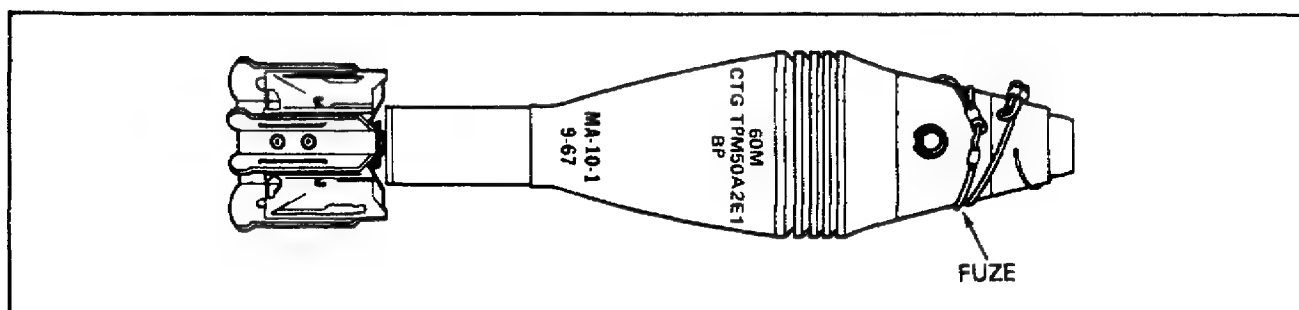
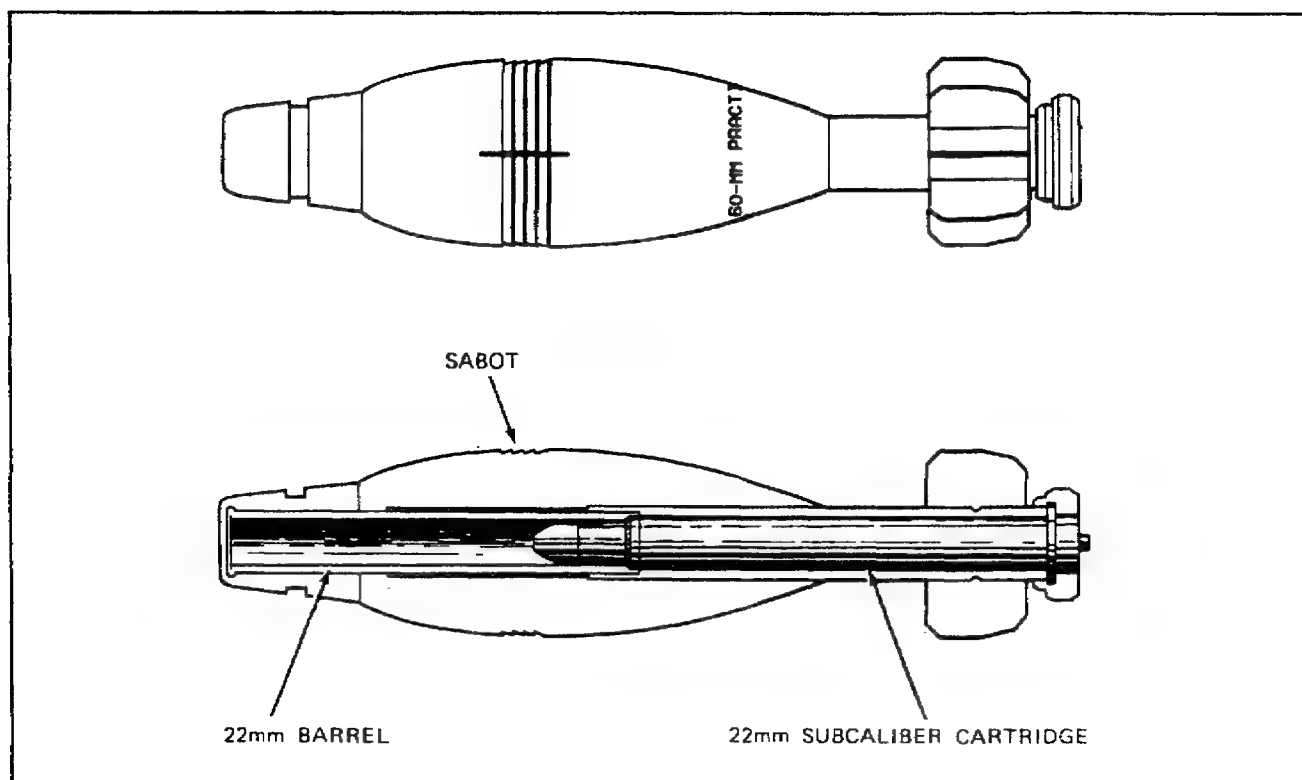

Figure 24. 60mm Target Practice Mortar Cartridge (Old).
Figure 25. 60mm Target Practice Mortar Cartridge (New).
**60mm Target Practice Mortar Ammunition.** The 60mm target practice mortar cartridge is used to provide realistic training without causing damage or using ammunition reserved for combat. The old 60mm target practice round (Figure 24) is identical in shape to the old type HE round, but the target practice round has a small black powder spotting charge and an inert plaster filler to make the weight correct. The target practice round uses a point-detonating fuze that functions upon impact, igniting the spotting charge. The spotting charge produces a small puff of smoke to mark the impact point. The only external difference between the old HE and the old target practice round is the color code. The old target practice round is blue with white markings and a brown band. The letters "BP" on the body stand for black powder. The new 60mm target practice mortar cartridge (Figure 25) contains a subcaliber device that can be fired in the same manner as standard service mortar ammunition, using standard mortar sighting and fire-control equipment and a special firing table.